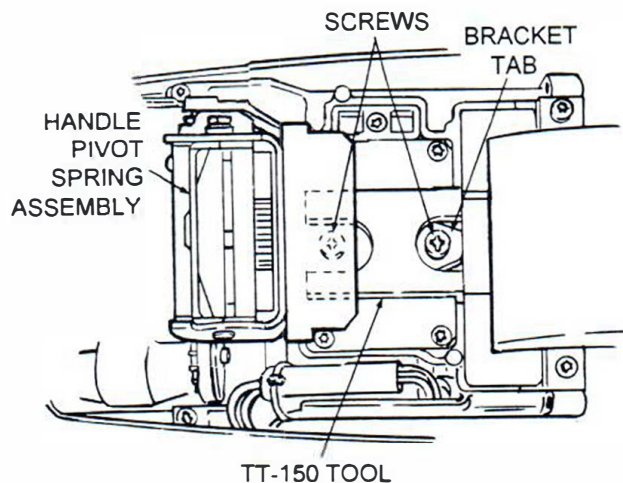

Figure 35. Use of Tool TT-150 During Handle Pivot Spring Assembly
- B. See Figure 35. Remove two screws from bracket tab. Remove handle pivot assembly.